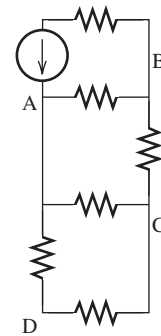

FIGURE P3.30 Circuit for Problem 3.30.
3.30 (A)* Which node is the best choice for a reference node in the circuit in Figure P3.30?
3.43 (B) Identify the meshes and mark the mesh currents in Figure P3.30.